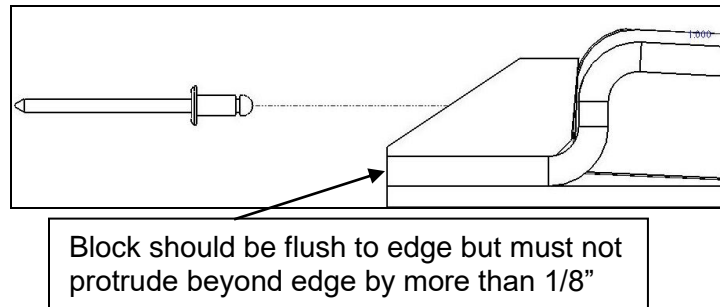

Figure 6
8. Refer to **Figure 6**. Final items to check for: